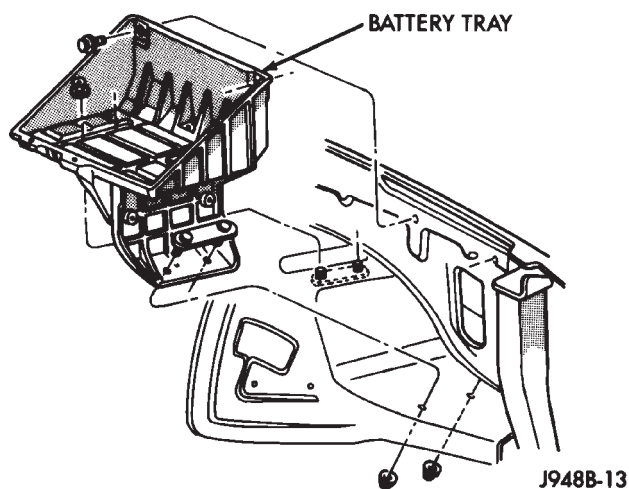
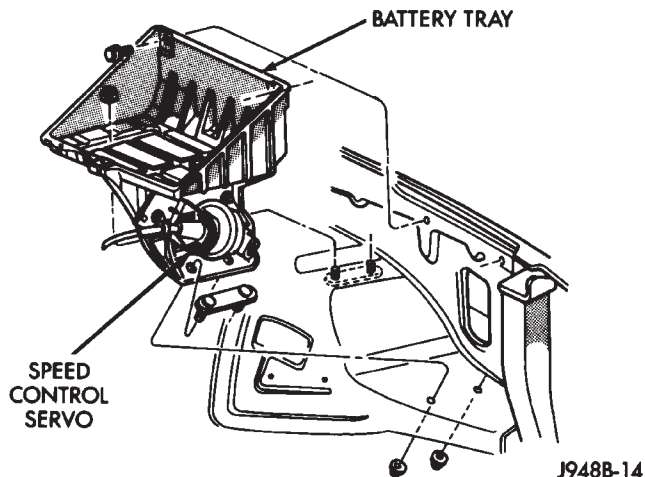

Fig. 20 Left Battery Tray - w/o Speed Control
Fig. 21 Left Battery Tray - w/Speed Control
(5) Inspect the battery tray and holddowns for corrosion or damage (Fig. 20), (Fig. 21) or (Fig. 22). Remove any corrosion using a wire brush and a sodium bicarbonate (baking soda) and warm water cleaning solution. Paint any exposed bare metal and replace any damaged parts.